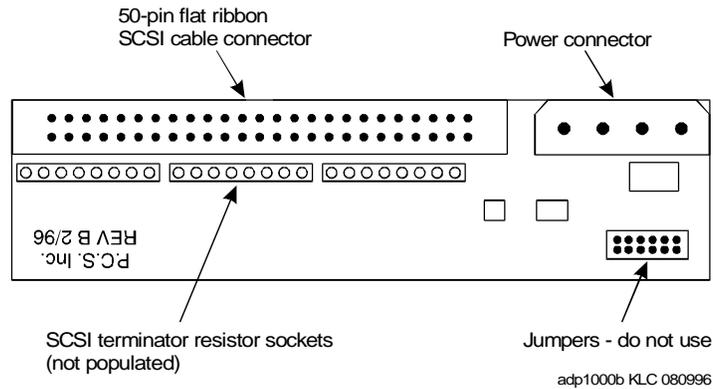

Figure C-25. Faceplate of the MAP/5 Adapter Card
1. Connect the SCSI ribbon to the 50-pin flat ribbon SCSI cable connector on the MAP/5 adapter card. This connector is located on the same side of the card as the jumpers. Figure C-25 shows the face of the adapter card. Figure C-26 shows the SCSI cable connector assignments.
2. Connect the power cable to the power connector (Figure C-25).